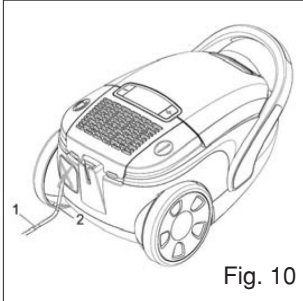
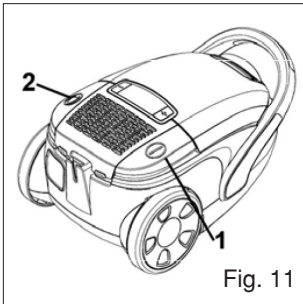

Fig. 10
Fig. 11
- 2) Pull out the cord until the yellow mark is visible (Fig. 10/1).
If the red marking shows (Fig. 10/2) retract the cord by pressing the retract button to pull in the cable (Fig. 11/2) up to the yellow mark again.
- 3) Switch on the vacuum cleaner with the on/off switch (Fig. 11/1)
You can increase the suction power by using the “-” (Fig. 10/2) or decrease by using the “+” (Fig. 10/3) buttons.